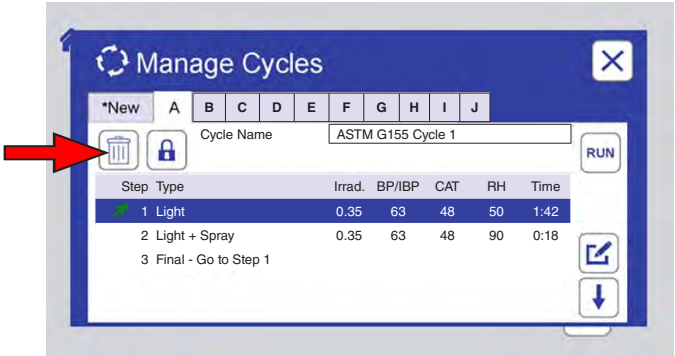
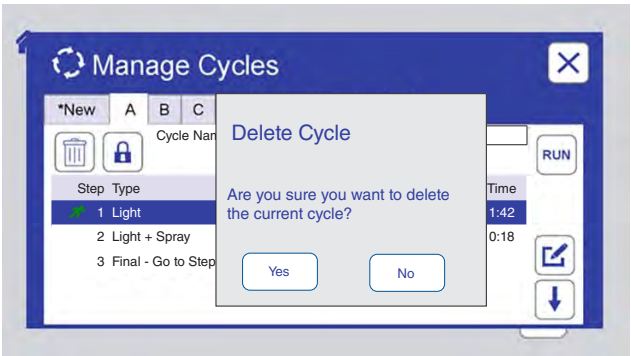

Figure 11.6.2a: Touch the delete icon to delete the selected cycle.
Figure 11.6.2c: To delete an inactive cycle, the operator is prompted for verification. Touch No to cancel delete. Touch Yes to create a blank cycle.
- Delete a cycle (Figure 11.6.2a through Figure 11.6.2c).